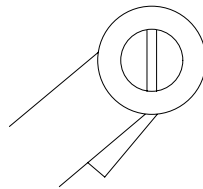
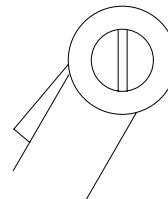

Figure 21:
Figure 22:
5. **Unplug the actuator.** If the arms are off in the direction of **Figure 21**, move the flag *slightly* toward 6 o'clock. If they are off as in **Figure 22**, move it *slightly* toward 12 o'clock.